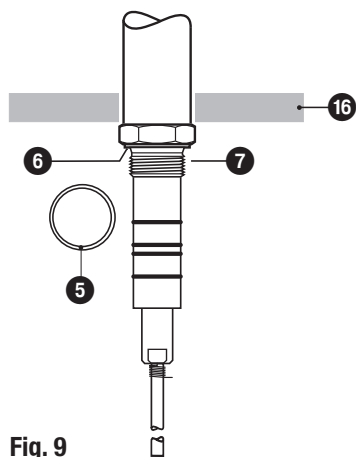

Fig. 9
2. Place ring joint ⑤ onto seating surface ⑥ of electrode, Fig. 5, Fig. 9
3. Apply a light smear of silicone grease (e.g. Molykote® 111) to electrode thread ⑦.
5. When installing two electrodes together in one flange install the first electrode as described in 4. Before mounting the second electrode undo nut ⑮, remove PE connection ⑭ and strip cable lugs from the board. Screw in electrode. Slightly tighten nut ⑮. Install PE connection ⑭ and insert cable lugs.
- Do not lag electrode body above the hexagonal section, Fig. 5, Fig. 9.